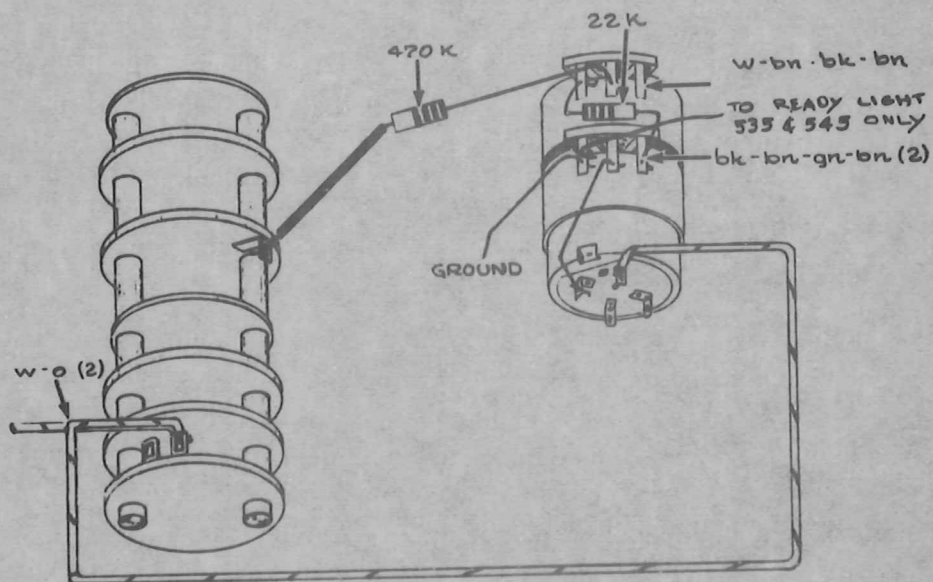

FIG. 1
- () 4. Solder the wires to the potentiometer assembly as indicated in Figs. 1 and 2.
- () 5. Solder the white-orange wire (from assembly) to the TRIGGERING MODE switch terminal shown in Fig. 1. (There is already one white-orange wire soldered to this terminal.)